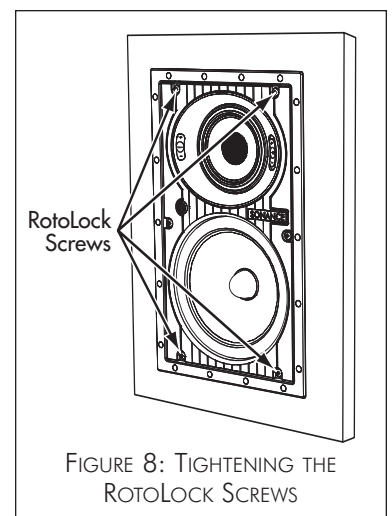

FIGURE 8: TIGHTENING THE
5. Tighten the four screws on the front of the speaker baffle. The RotoLock clamps will automatically rotate into position and begin clamping the speaker (*Figure 8*).